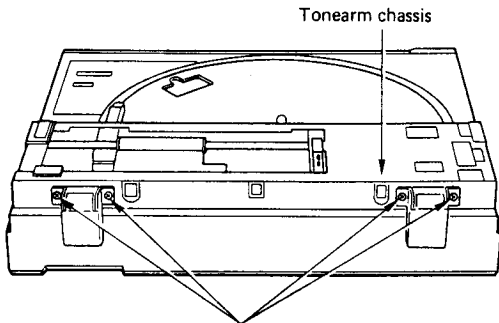

Fig. 18
- 2) As shown in Fig. 18, the tonearm chassis can be removed by first removing the four screws (23) .